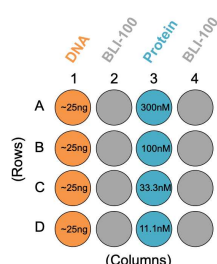

Figure 2: 96-well plate set-up for example experiment. Each well contains a 200 μL volume, and both DNA and protein dilutions are done with BLI-100 buffer.
- 6 Create a solution of BLI-100. Each well receives 200 μL , so we recommend preparing extra BLI-100 (250 μL per well^{10m}) to account for minor pipetting deviations. For our example experiment in this protocol, we will be using Rows A-D and columns 1-4 (32 wells total, see **Figure 2**). Therefore, we suggest making 4 mL of BLI-100. Add 200 μL of BLI-100 to each well in Columns 2, 3, and 4. Columns 2 and 4 will be used for washes during the automated BLI experiment, and Column 3 will be used to dilute our protein of interest (discussed in step 8). All dilutions and preparation can be performed at room temperature.